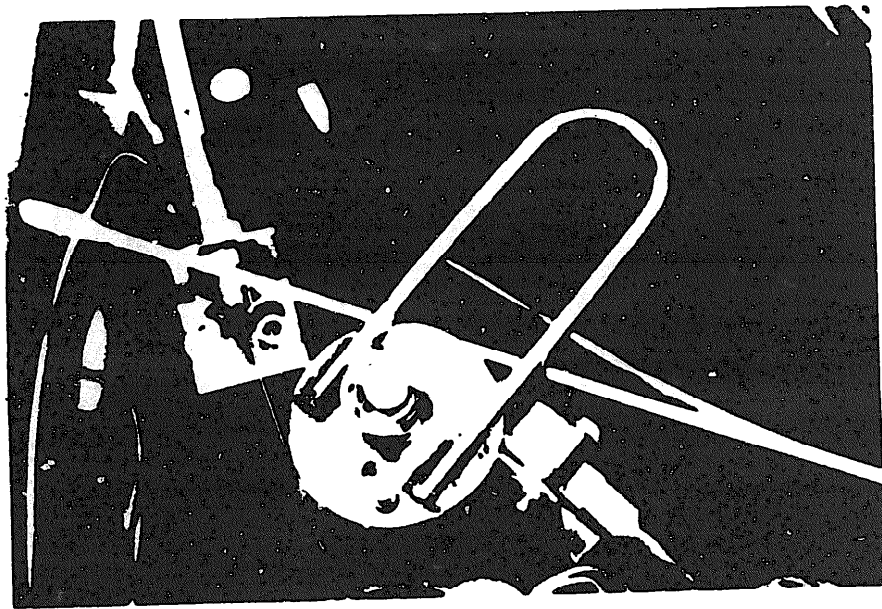

Figure 6-21. Interlock Switch
**Insert Q-tip under solenoid plunger so that interlock handle can move the full stroke. (See Figure 6-21).**